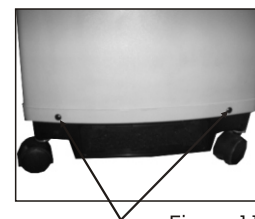

Figure 11
- Unscrew 6 fixing screws on four sides of the machine. (Figure 11, 12)